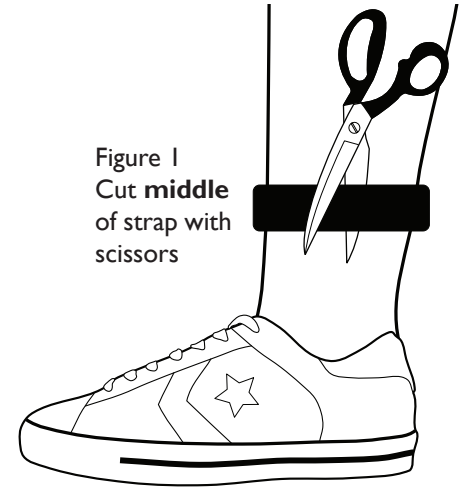

Figure 1
- Cut the **middle** of the strap with scissors and remove the PID or SOLO from the subject. **(Figure 1)**